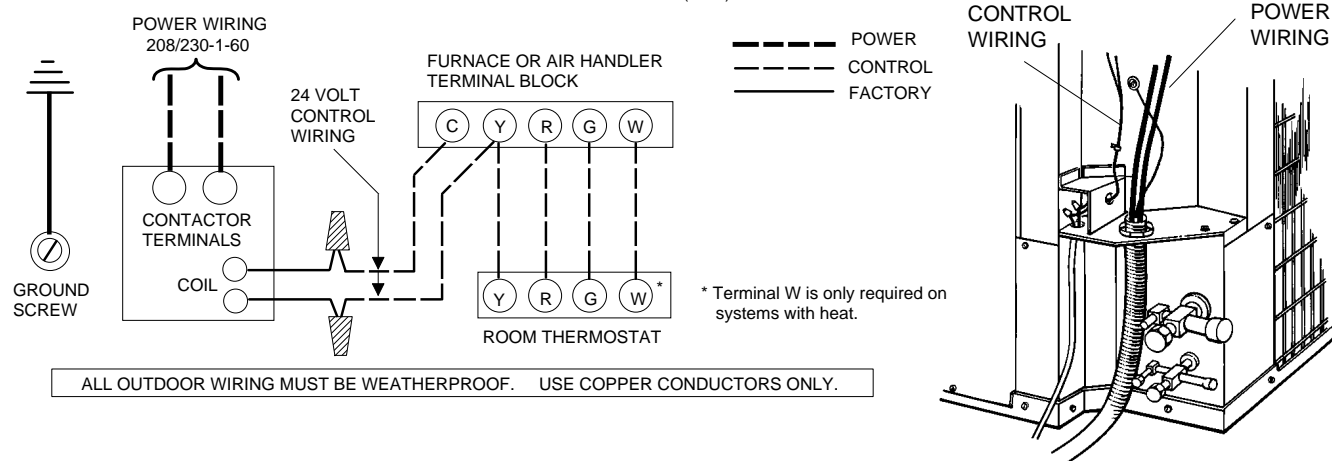

FIGURE 8 - TYPICAL FIELD WIRING
2. Route low voltage wiring into bottom of control box as shown in Figure 8. Make low voltage wiring connections inside the junction box.